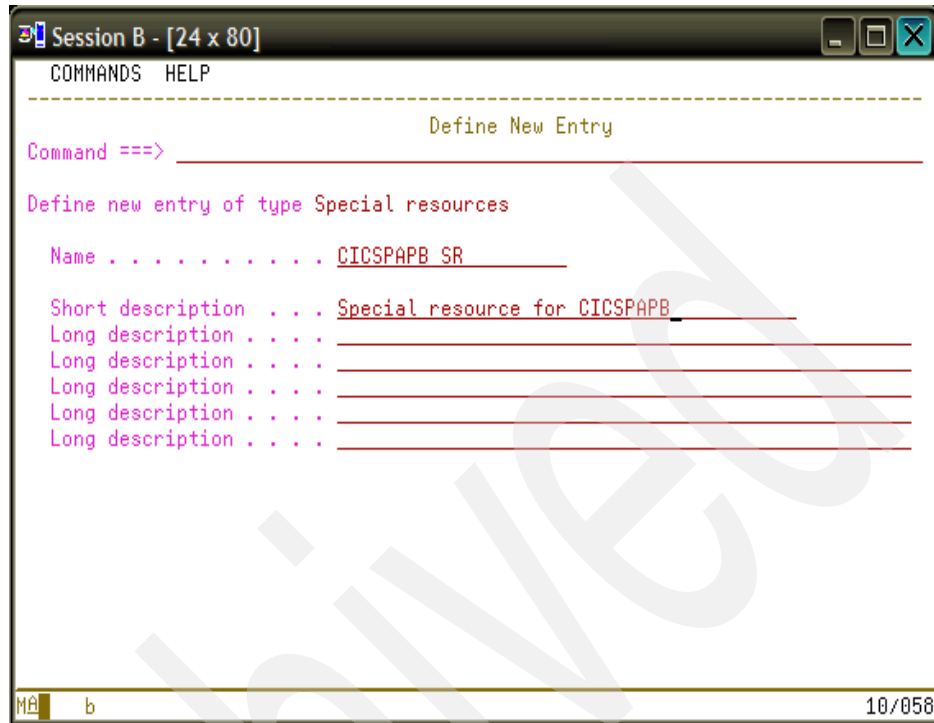

Figure 4-61 Define New Entry panel for OSR entry
2. Type **new** on the command line and press Enter. The Define New Entry panel that is shown in Figure 4-61 on page 168 displays.